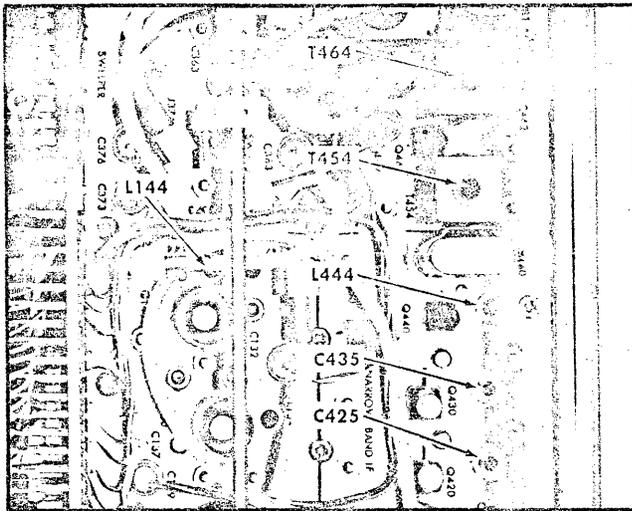

Fig. 6-8. Location of the IF amplifier peaking adjustments.
- d. Adjust L144 (wide band amplifier) and T464, T454, C435, C425 (narrow band IF amplifier) Fig. 6-8, in the order listed for maximum signal amplitude.